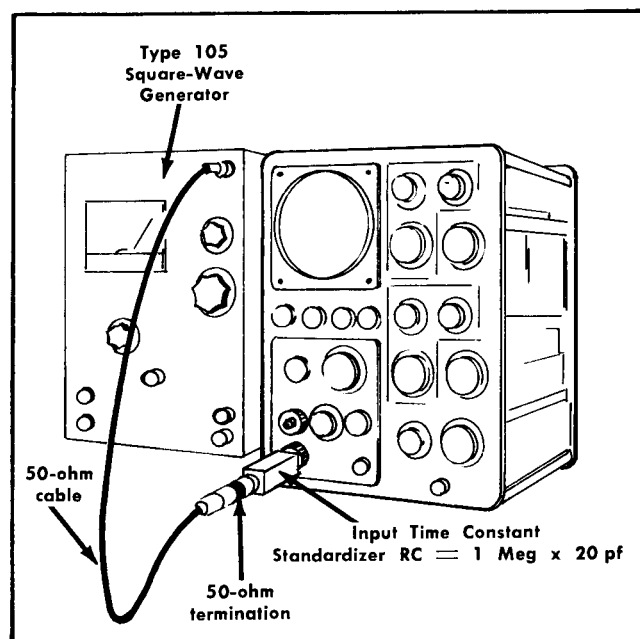

Fig. 5-6. Setup for performing step 28.
- b. Apply a 1-kc signal from the Type 105 Square-Wave Generator, or equivalent, through a coaxial cable, a 50-ohm termination and a 1-meg \times 20-pf input time constant standardizer (in that order) to the B input connector (see Fig. 5-6).